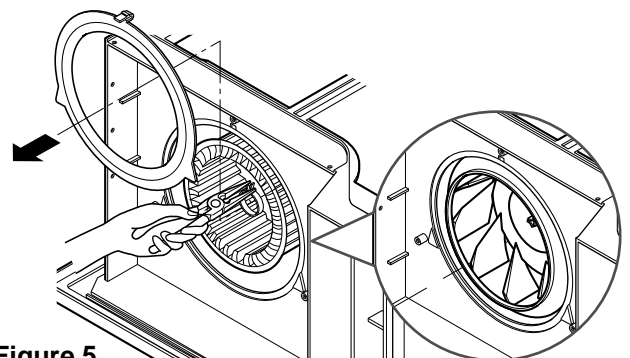

Figure 5
5. Remove the clamp which secures the blower with plier. (See Fig. 5)